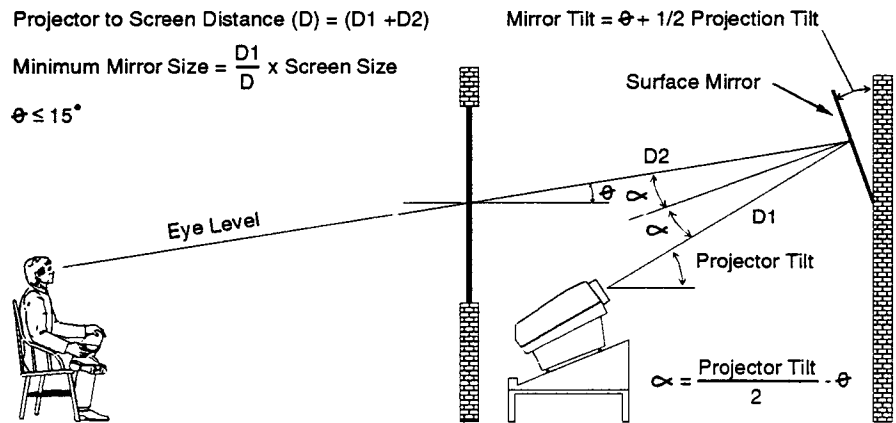

Figure 2-12. *Folded Optics*
In situations where the space behind the projector is limited, a mirror may be used to fold the optical path as illustrated in Figure 2-12. If a diffused screen is used, the projection angle θ should be less than 15°. If an optical screen is used, the optical path between the mirror and the screen should be perpendicular to the screen. Much attention must be given to the positioning of the projector and the mirror. This can be quite difficult for installers unfamiliar with this type of installation. It is recommended that your dealer or an experienced installer perform the installation.
Note: When using a mirror as shown in Figure 2-12, the calculated projector-to-screen distance (D) is the summation of D1 and D2.